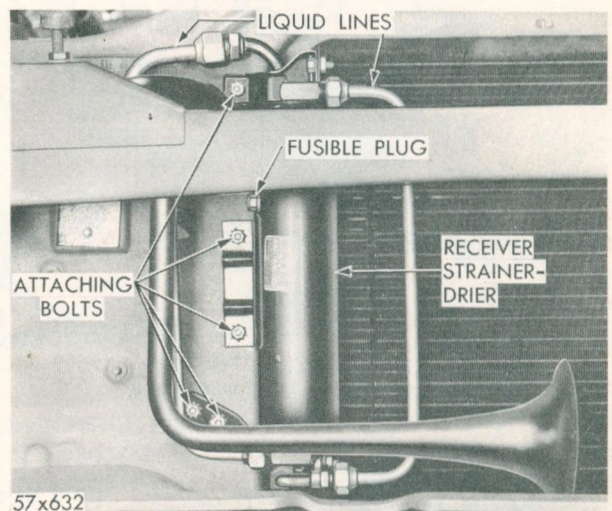

Fig. 26—Receiver Drier Installed
24. REPLACEMENT OF RECEIVER STRAINER-DRIER (Fig. 26).
25. REPLACEMENT OF RECEIVER STRAINER-DRIER FUSIBLE PLUG (Without Removal From Car) (Fig. 26)